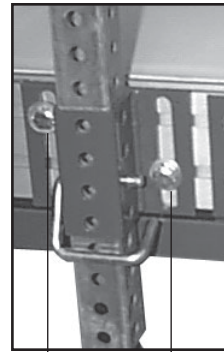

Figure 3
- 3) Loosen the leg brackets on the incline end of conveyor (**see Figure 3**). Adjust the leg brackets perpendicular to floor (at this time do not retighten leg brackets).
- 5) Insert the legs into the side brackets (**see Figure 3**), retighten bolts on leg bracket, and set the locking pins.